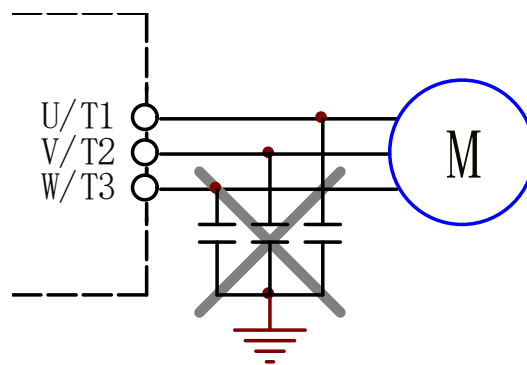

Figure 4-13 Schematic diagram of prohibiting the connection of capacitors on the output side
- It is strictly forbidden to connect capacitors on the output side of the inverter. See Figure 4-13 for a schematic diagram.